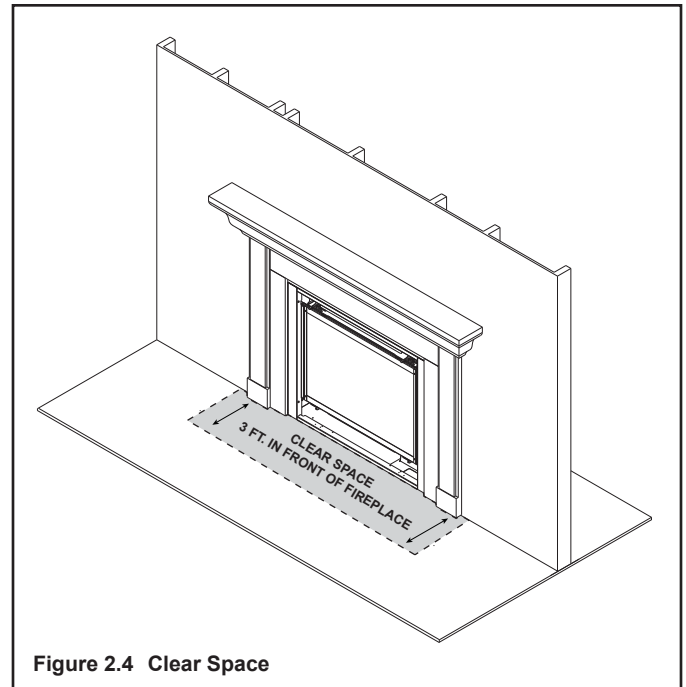

Figure 2.4 Clear Space
**WARNING! DO NOT** place combustible objects in front of the fireplace or block louvers. High temperatures may start a fire. See Figure 2.4.